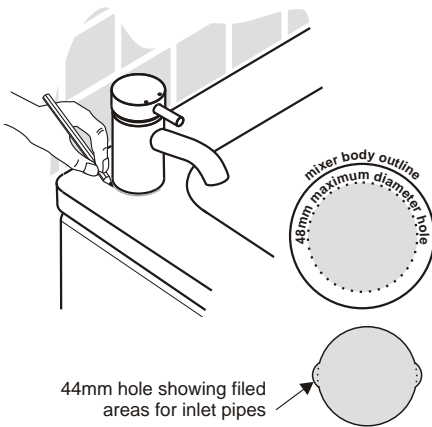

Figure 2
e.g. A 1 3/4" (44mm) cutter can be used and the hole filed out locally to accommodate the inlet pipes. (Figure 2)
Before fitting the tails, offer up the bath S/L in the intended location and check for free movement of the lever. Draw a pencil line around the base (Figure 2)
In the center of the of the outline, drill the 48mm hole. (Figure 2)